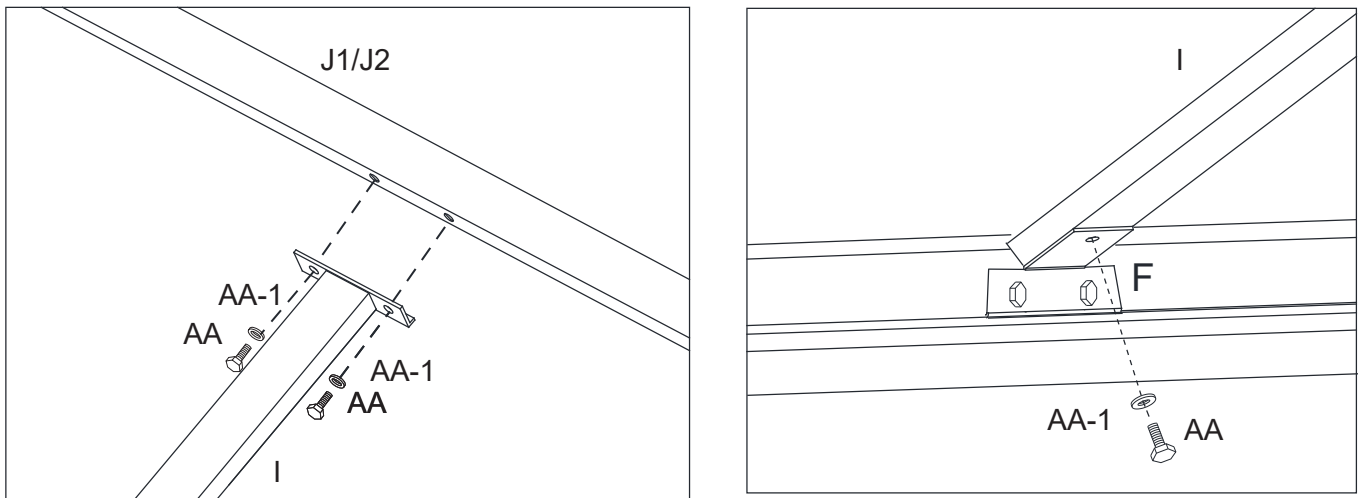

Figure 9-1
- 9.1 Attach the Main Roof Vertical Center Supports (I) to the Main Roof Center Frame (J1/J2) and the Lintel Brackets (F) using Bolts (AA) and Steel washer (AA-1). Hand Tighten Only. See Figure 9-1.